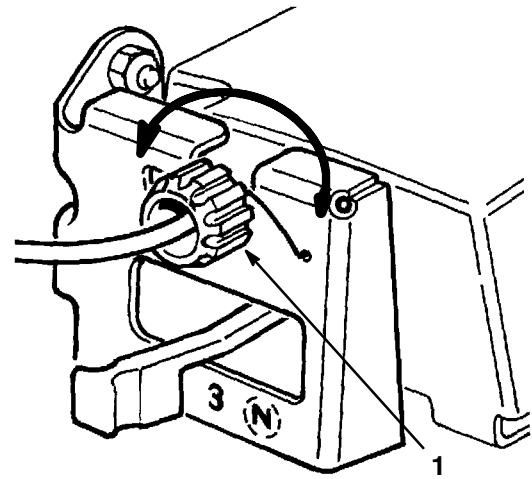

Figure 36
2. Rotate the control knob clockwise 1/2 turn if the lawn mower does not self-propel. If the lawn mower creeps forward, rotate the knob 1/2 turn counterclockwise to loosen the belt (Fig. 36).